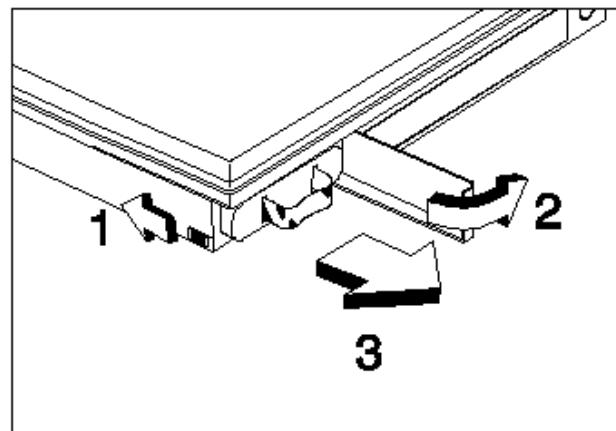

Figure 2-7 *Battery Pack Installation*
1. Unlatch the battery compartment door (right front corner of the unit) as shown in Figure 2-7.
2. Slide the battery compartment door out slightly and then swing the door outward as shown in Figure 2-7.